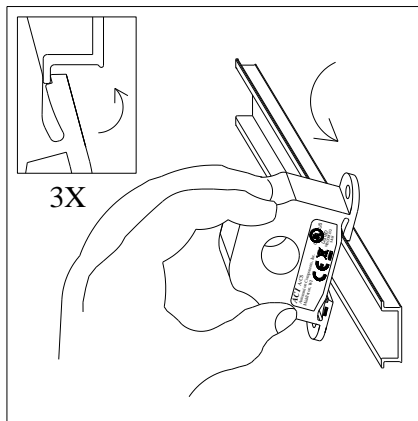

Figure 1: Sensor Placed on Rail
The A/CS Series Current Switches should be used on **Insulated Conductors Only!** The current switch may be mounted in any position using the (2) #8 x 3/4" Tek screws and the mounting holes in the base or snapped directly on to the 35mm DIN rail (See **Figures 1 & 2 below**). Leave a minimum distance of 1" (3 cm) between the current switch and any other magnetic devices such as contactors and transformers.